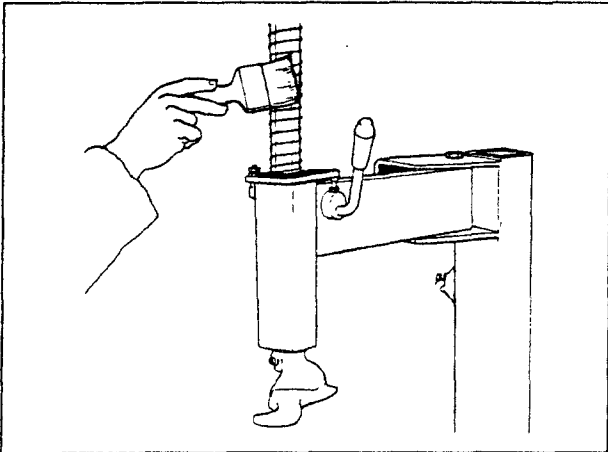

Fig.24
A. Periodically clean the vertical hexagonal rod with nonflammable liquid detergent. After this, immediately lubricate with oil (fig.24).